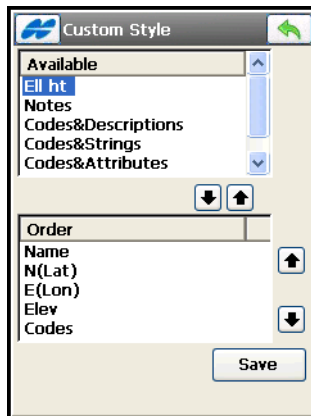

Figure 5-13. Custom Style
To customize the format, enter the order of data using the *Custom Style* screen (Figure 5-13).
4. Tap **Save** (Figure 5-13). The combination will display in the *Select File Format* drop-down list on the *Text File Format* screen.